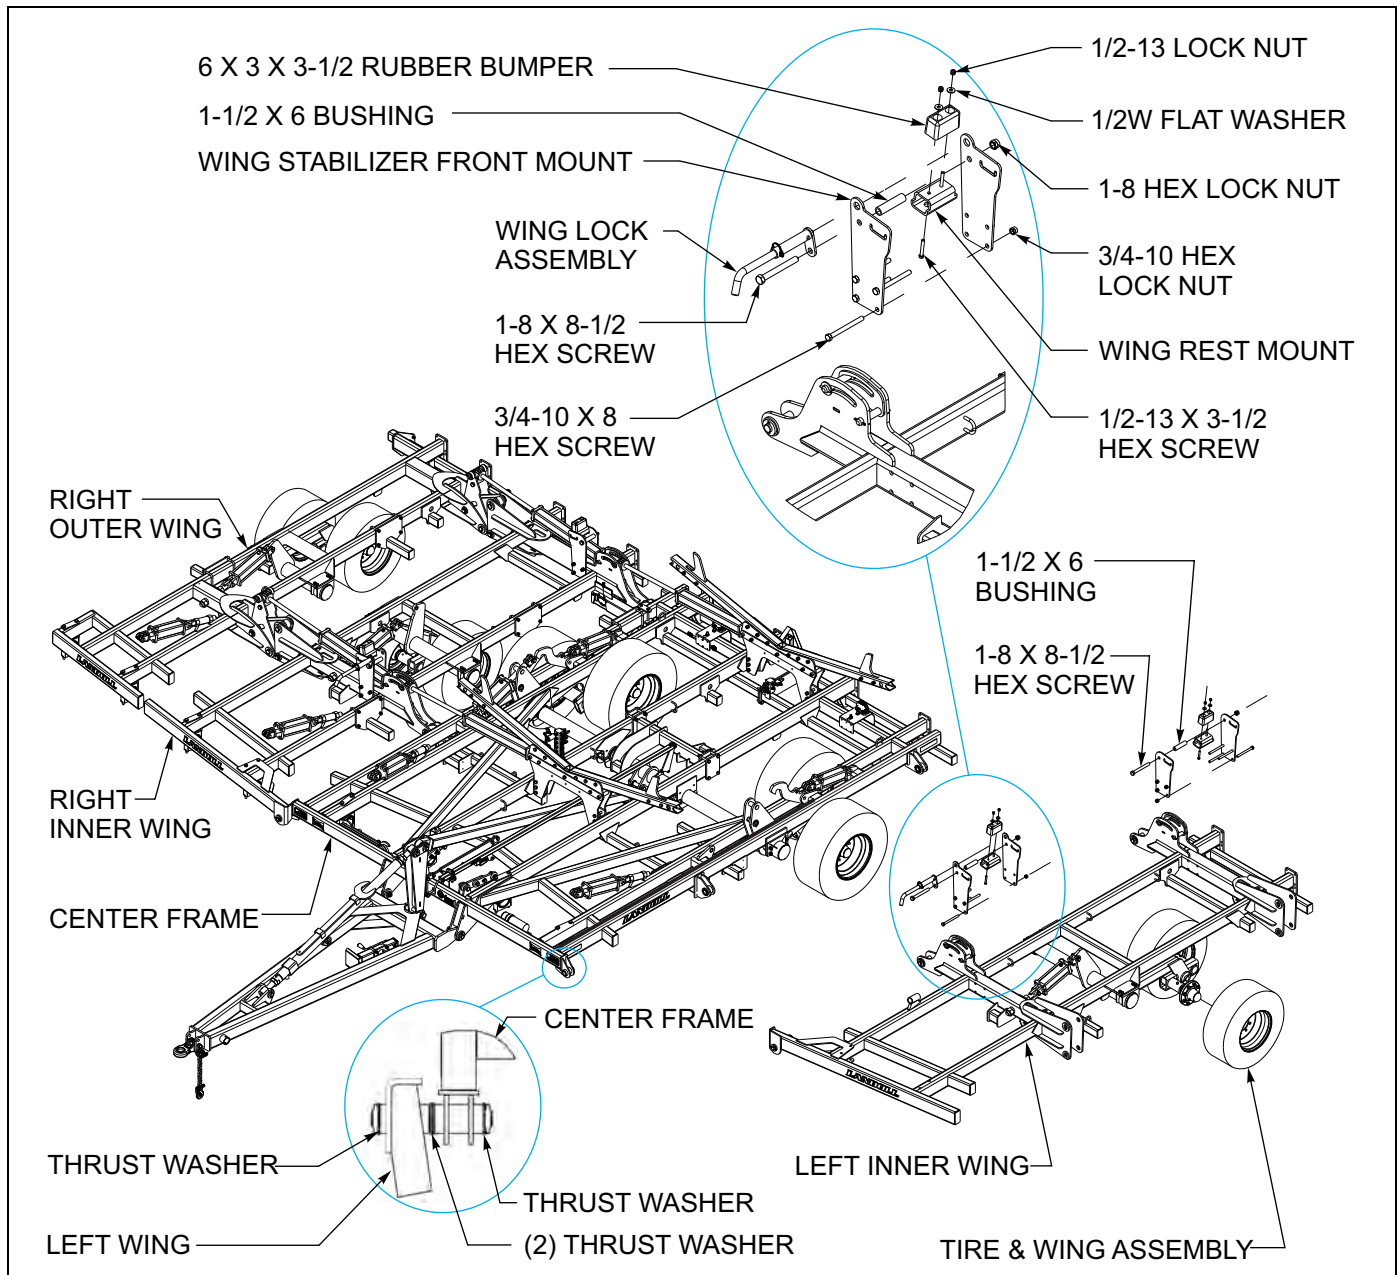

Figure 3-8: Inner Wing Installation - 38'
1. Assemble the inner wings to the center frame as shown in **Figures 3-8 & 3-9**. Installation of the front hinge pin as shown **Figures 3-8 & 3-9** with thrust washer on both ends and two in the middle is recommended first. Then the middle hinge pin and finishing with the rear pin. The center and rear hinge pins will only have thrust washers on the front side of the center frame hinge ear.
3. Assemble the wing stabilizer mounts as shown in **Figures 3-8 & 3-9** along with the wing lock assembly to the front mounts.